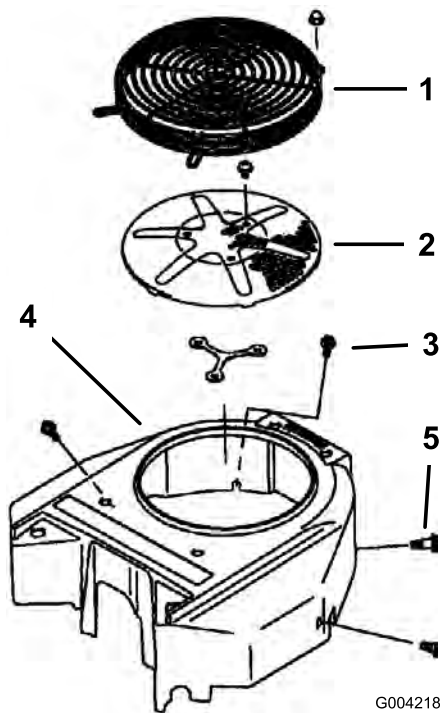

Figure 58
3. Remove the air intake screen and fan housing (Figure 58).
5. Install air intake screen, recoil starter and fan housing (Figure 58).